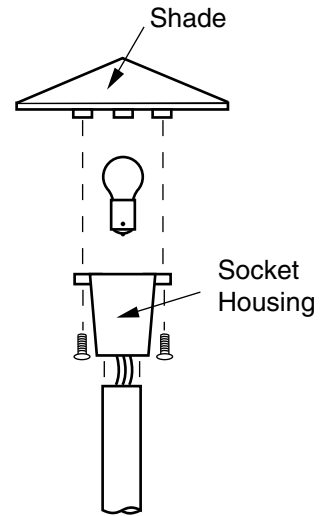

FIGURE 3
ELECTRICAL CONNECTION - FIGURE 3
- When attaching fixtures, care must be taken to balance electrical load. To do this on a 3-wire cable, alternate direction of connectors on power cable for every other fixture (connector pins will pierce opposite side of 3-wire cable). (See **Figure 3**)